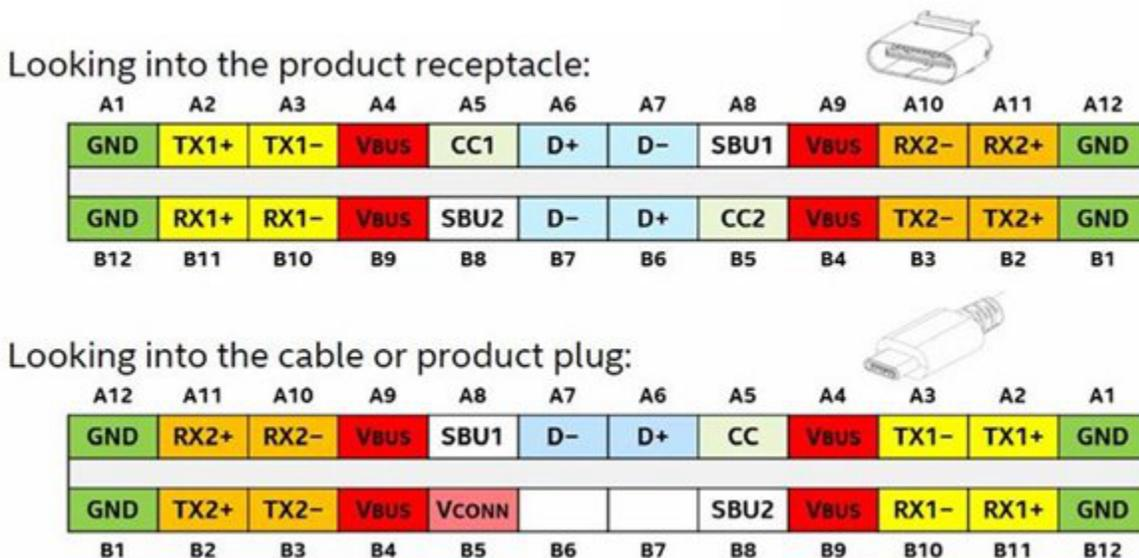

Figure 1. USB Type-C Connector Pinout
- A small pin pitch increases risk of short circuits.** To support all of this functionality in such a small form factor, the pin pitch of USB Type-C connectors is 0.5mm, which is much smaller than the 2.5mm pin pitch in the USB Type-A connector. This tiny pin pitch increases the likelihood of a pin-to-pin short circuit. If debris becomes caught in the connector, or if the consumer pulls the connector out of the receptacle at an angle, a short could easily occur. These shorts are especially devastating for the sideband use (SBU) and configuration channel (CC) pins, which are directly adjacent to the V_{BUS} pins, shown in Figure 1, and are only tolerant to 5V. The V_{BUS} lane can deliver up to 20V and 5A for 100W fast charging power delivery, as mentioned, which could seriously damage the sensitive components connected to the SBU and CC pins.